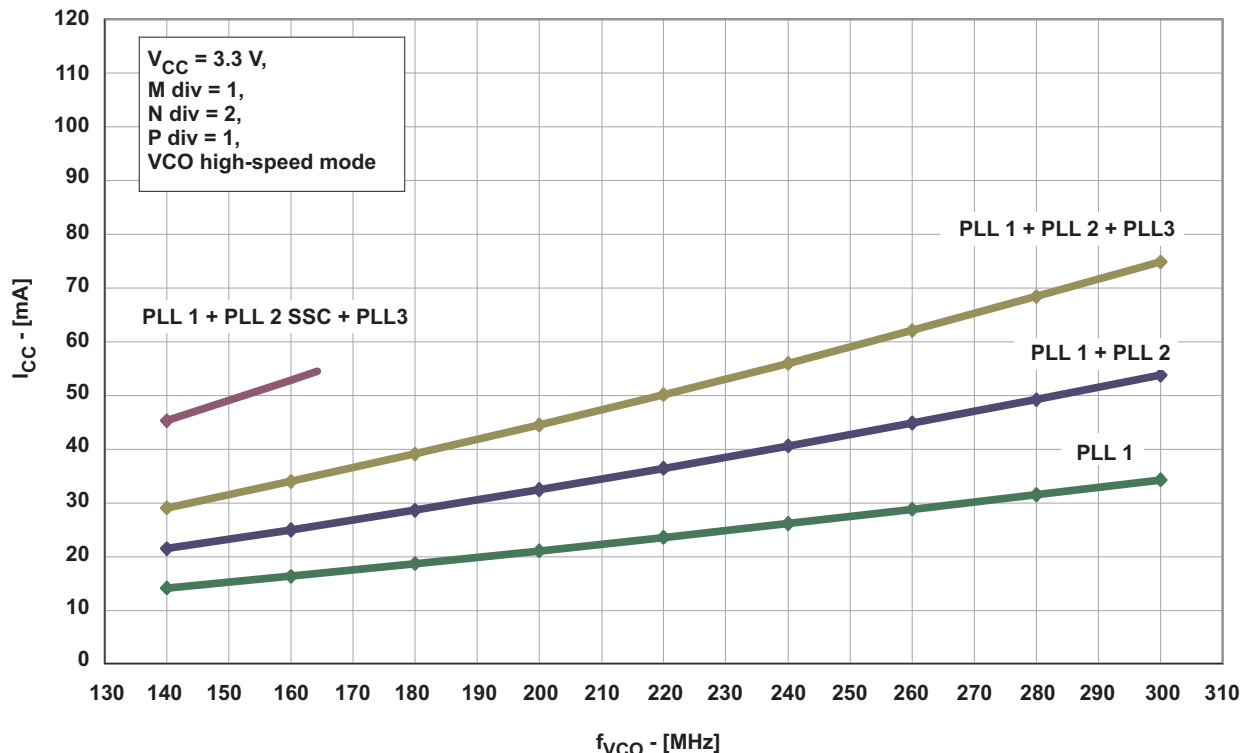

Figure 3. I_{CC} vs Number of PLLs and VCO Frequency (VCO at High-Speed Mode, Byte 6 Bit [7:5])
- (1) All typical values are at respective nominal V_{CC} .
- (2) For calculating total supply current, add the current from Figure 2, Figure 3, and Figure 4. Using high-speed mode of the VCO reduces the current consumption significantly. See Figure 3.
- (3) Normal-speed mode or high-speed mode must be selected by the VCO frequency selection bit in Byte 6, Bit [7:5]. The min f_{VCO} can be lower but impacts jitter-performance.
- (4) The maximum output frequency may be exceeded, but specifications under the Recommended Operating Condition may change and are no longer assured. Do not exceed the maximum power dissipation of the 20-pin TSSOP package (600 mW at no air flow).